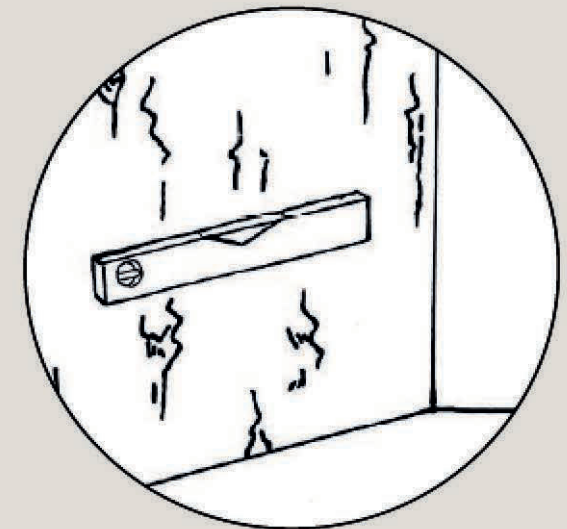

Figure 2
1. Check the flatness of the wall you are installing the panels on using a five foot long level. The maximum allowable tolerance is 1/8 inch, anything more should be filled with some filler material that is fixed to the wall to even it out. (figure 2) Also check that the wall surface you are installing onto is dry and free of moisture. Clean all dust, grease or any other substance that may compromise the adhesion of the panel to the wall.